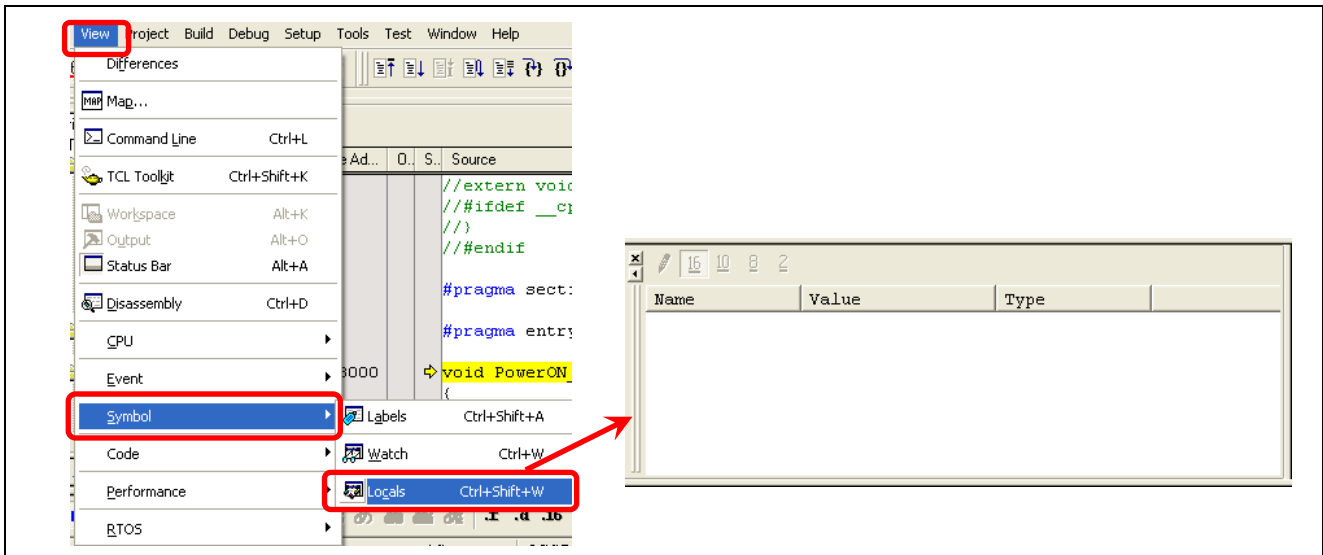

Figure 4.35 Opening the [Local] Window
(1) Select [View -> Symbol -> Locals] as shown in Figure 4.35 to open the [Local] window.